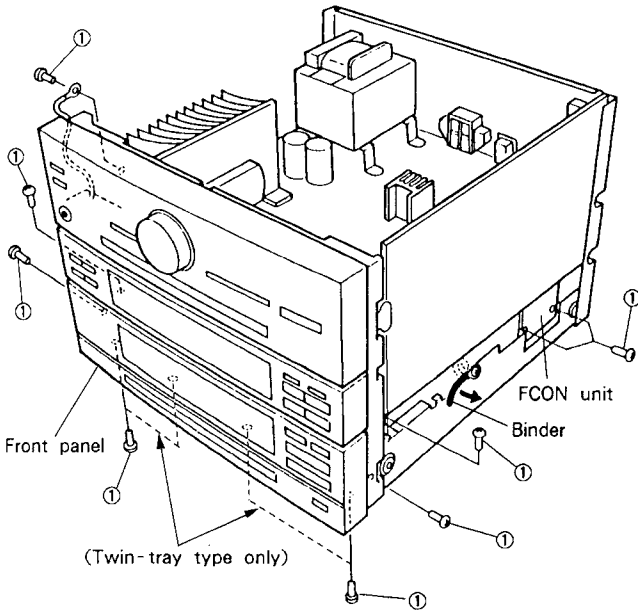

Fig. 7-1
2. Remove nine screws ① and a binder to remove the front panel and FCON unit as shown in Fig.7-1.